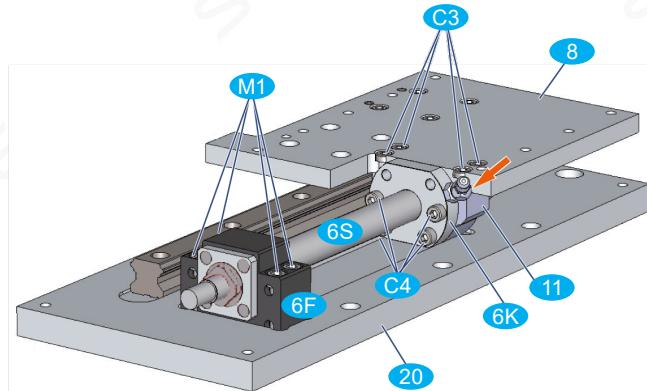

Fig. 37: Installation of drive Z
- Place the pre-assembled drive Z 6 on plate Z 20 as shown in Figure 37; Please note the following: